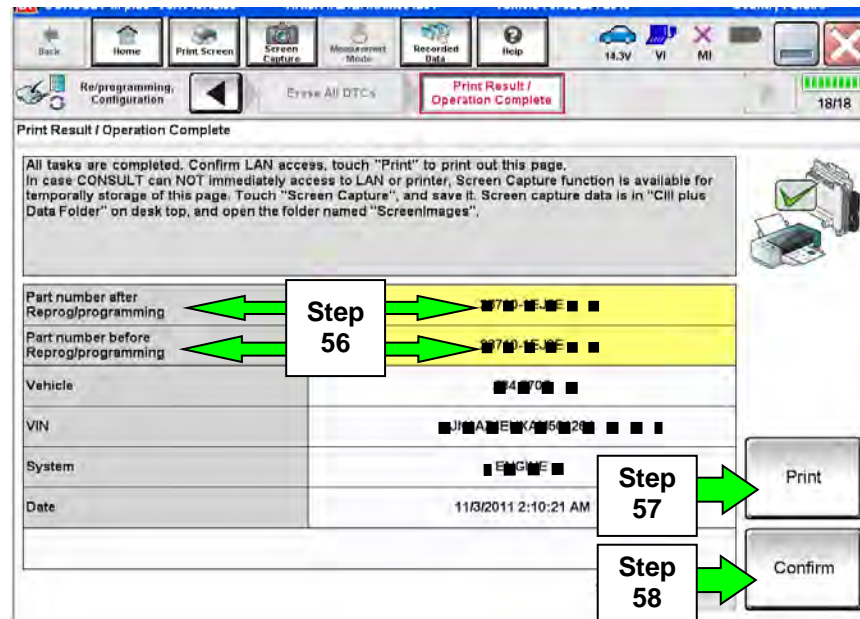

Figure 33
57. Print a copy of this screen (Figure 33) and attach it to the repair order.